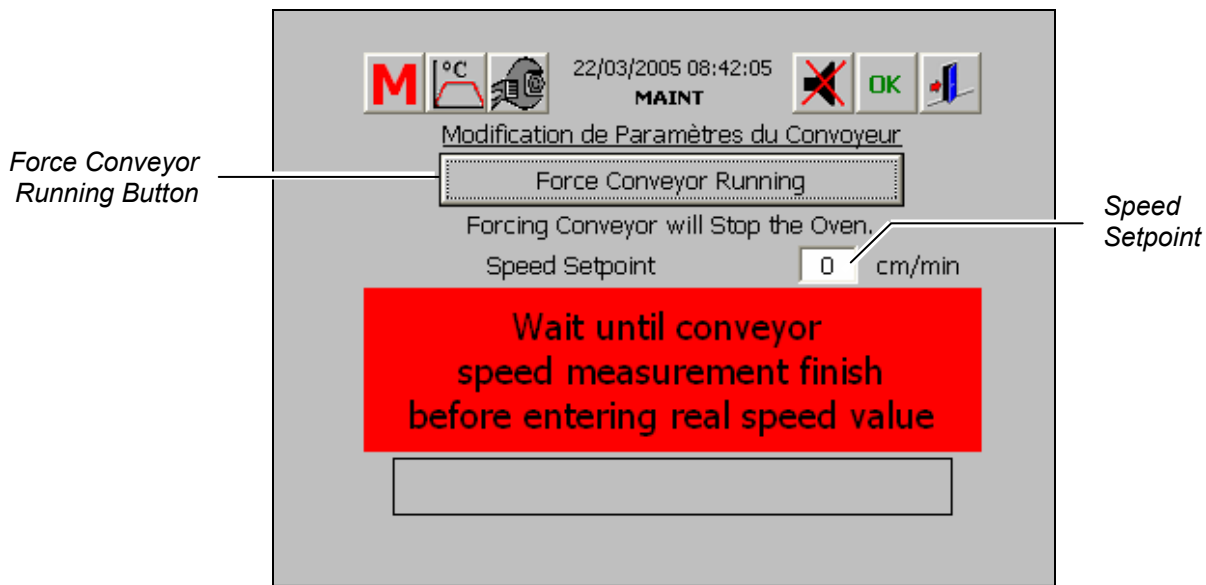

Figure 6-29 Force Conveyor Measurement Screen
2. The Force Conveyor Measurement screen appears (Figure 6-29). To start the speed measurement, click on the **Force Conveyor Running** button. A message will display prompting you to wait until conveyor speed measurement is finished. Check that the conveyor moves and wait for the measurement to end.